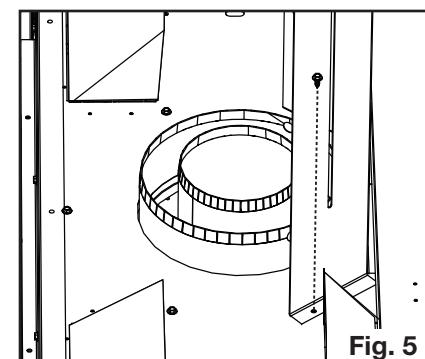

Fig. 5
5. Align the vent shield with the holes and replace above screws (**Figure 5**).